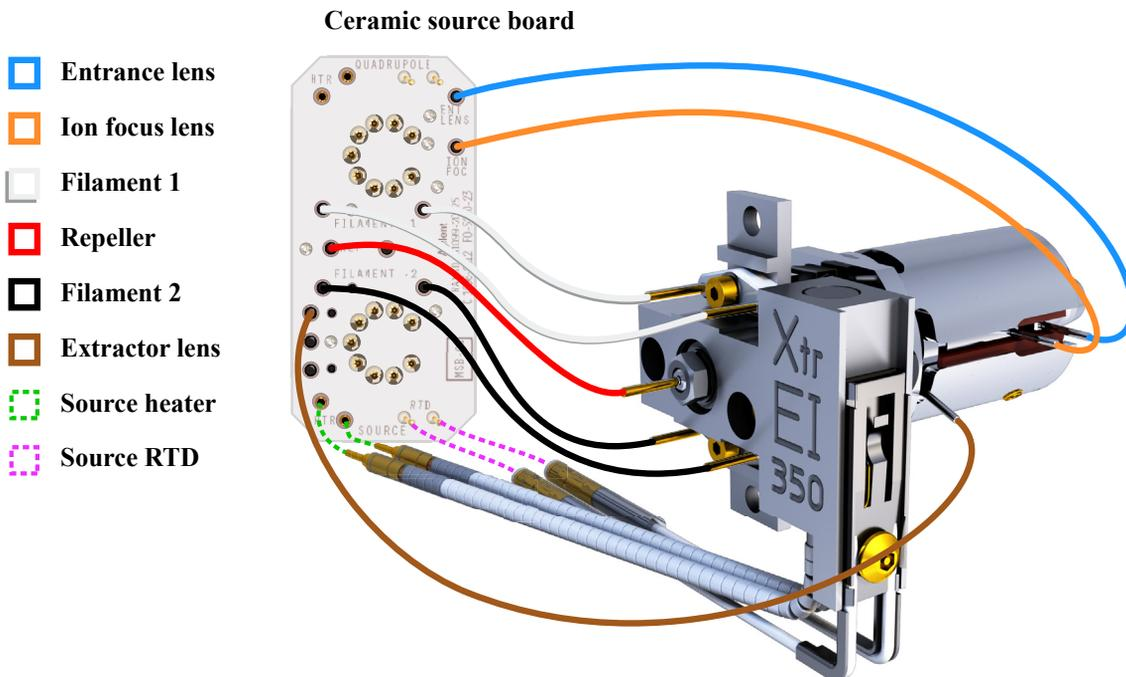

Figure 58 Wiring for the EI HydroInert Source
- 1 Use tweezers or needle nose pliers to connect/disconnect the ceramic source board wire leads at the source connectors. (See Figure 58.)